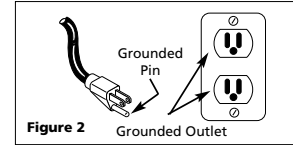

Figure 2 Grounded Outlet
1. This product is for use on a nominal 120 volt circuit and has a grounding plug that looks like the plug illustrated in Figure 2. Make sure the product is connected to an outlet having the same configuration as the plug. Do not use an adapter with this product. This product must be grounded. In the event of an electrical short circuit, grounding reduces risk of electrical shock by providing an escape wire for electric current. This product is equipped with a cord having a grounding wire with an appropriate grounding plug. Cord must be plugged into an outlet that is properly installed and grounded in accordance with all local codes and ordinances.